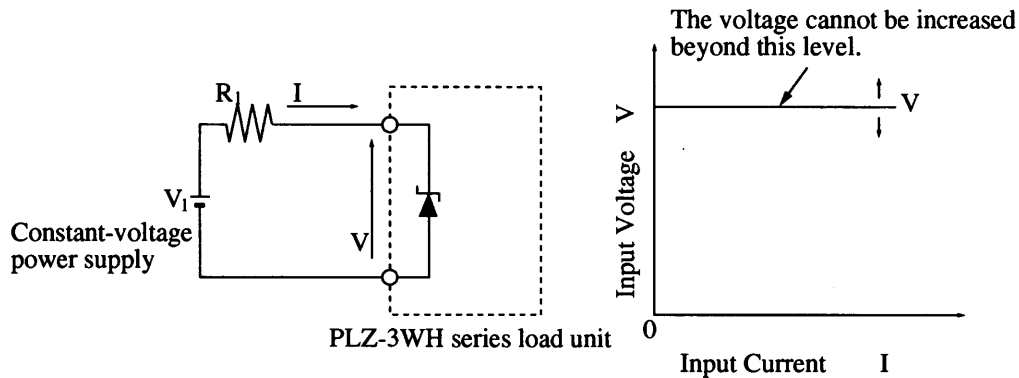

Fig. 4.3-3
■ Basic operation of CV mode (see Fig. 4.3-3)